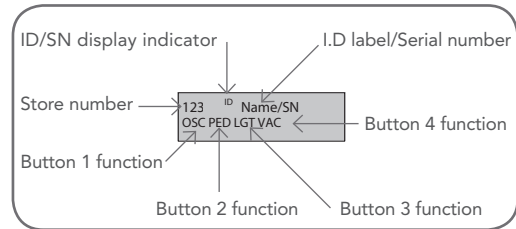

Fig 10.1
NeoSlider™ can store up to thirty (30) transmitters in its memory. Each transmitter can be allocated an alpha-numeric ID label up to eleven (11) characters in length and each button can be assigned to one of several control functions. The settings for a transmitter are represented in (Fig. 10.1). It shows the transmitter's store number, ID label or serial number and the functions assigned to each of its four buttons. To toggle between ID/SN display, press UP/DOWN with the cursor on the ID/SN indicator. The procedures below code, delete, replace, edit and copy transmitter records.